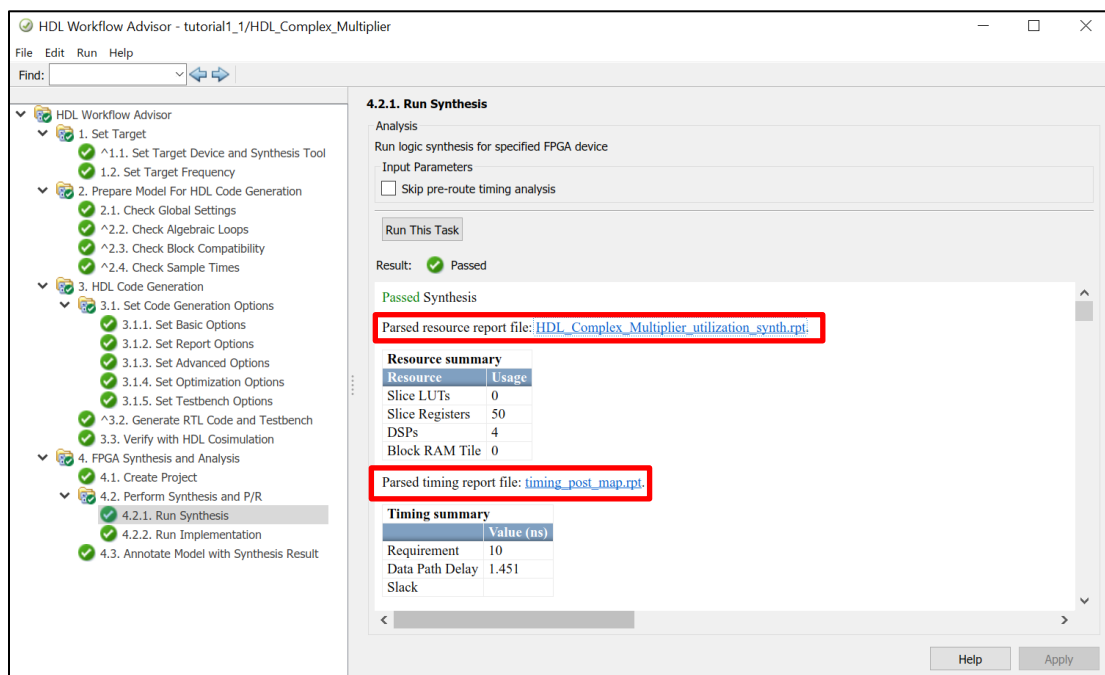

Figure 22: Result Summary
When the synthesis run is completed, you can check the post-synthesis resource utilization and timing summaries from the synthesis results (Figure 22). By default, the implementation stage (placement and routing) is skipped. If you want to run the implementation stage after synthesis, uncheck the “Skip this task” option in step 4.2.2.
- 3-16.** You can click on the parsed resource and timing report files for detailed reports (Figure 22). In the resource report, you can see a list of used and available resources on the FPGA, as well as the percentage of resource utilization. In the timing report, you can check the worst-case setup and hold time slacks and details of the maximum and minimum delay paths. Under the Design Timing Summary section of the timing report, the WNS (ns) value is the worst-case setup time slack, and the WHS (ns) value is the worst-case hold time slack.